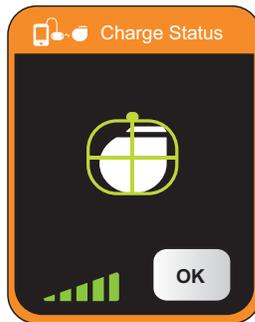

Figure 55. Aligning the charging paddle for maximum efficiency
7. Adjust the position of the charging paddle so it is aligned for maximum charging efficiency (Figure 55).